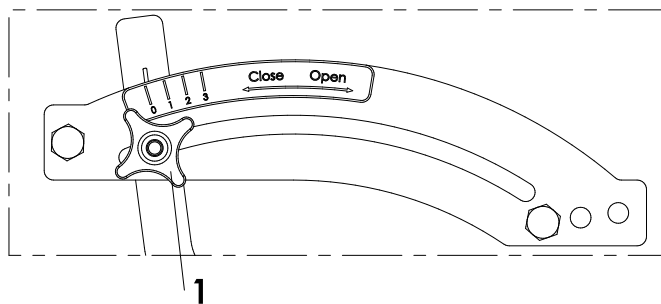

Figure 7
3. The valve element can be adjusted to the size of the seed to be sown. With fine seed, the valve element must be completely closed. At larger seed, the space between the gear wheel and the valve is not large enough to allow the seeds through. For this reason the valve needs to be put open further. Adjusting the size of the opening can be done with the valve adjustment handle. The lever can be adjusted by loosening the knob (1) to select the desired position and tighten the knob again. (Figure 7)